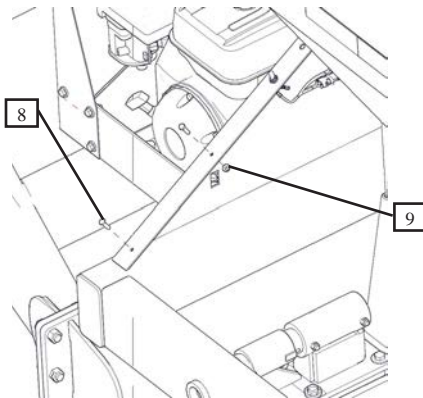

Figure 6.4
15. Attach Scale Display Box (#7) onto the Shell/Leg Weldment (Figure 6.5) with 1/4"-20 X 1" Grade 5 Zinc Hex Bolt (#8) and 1/4"-20 Grade 5 Zinc Serrated Flange Hex Nut (#9) (Figure 6.4). Remove the Stationary control box from the Leg and attach to the outside of the Scale Display Box (#7).